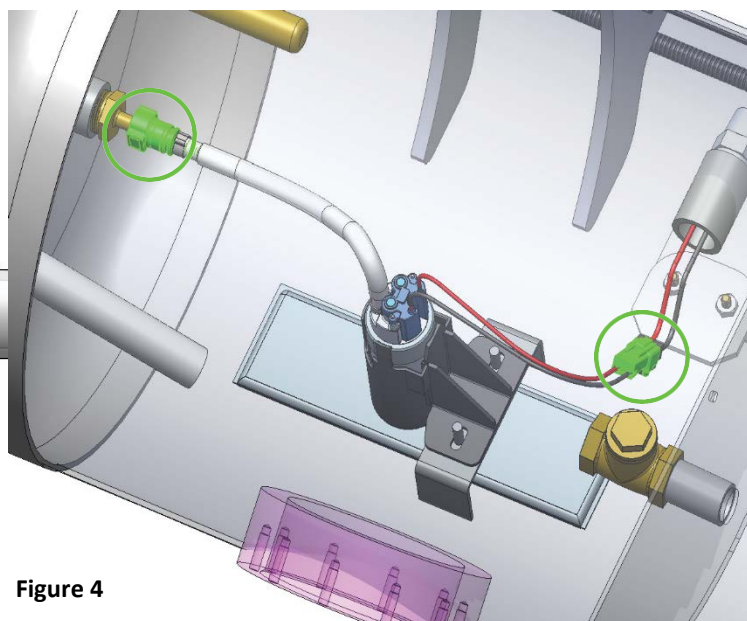
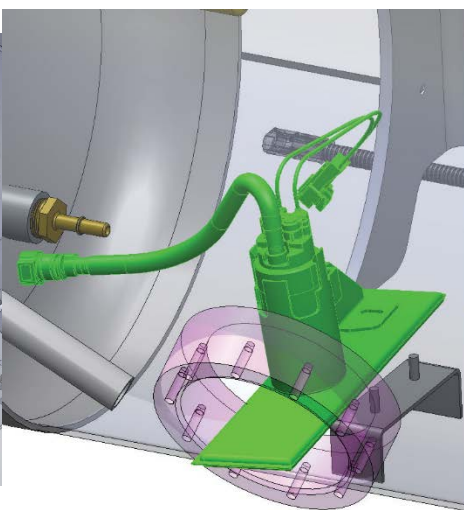

Figure 4
Figure 6
6. To remove the quick disconnect fitting from the quick connect bead fitting. Press in the tab on the side of the quick disconnect (1) While pushing the tab in pull the assembly in the opposite direction from the quick connect bead fitting (2). (Figure 6 & 7) Disconnect electrical connector. (Figure 4)